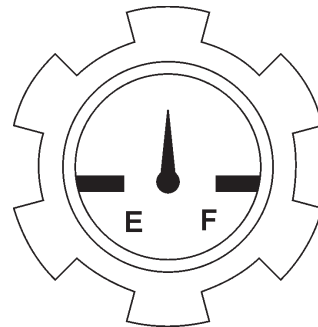

Figure 9. Fuel Cap Gauge
5. Check the fuel gauge built into the fuel tank cap (Figure 9) to determine if the pump's engine fuel is low. Refuel as needed